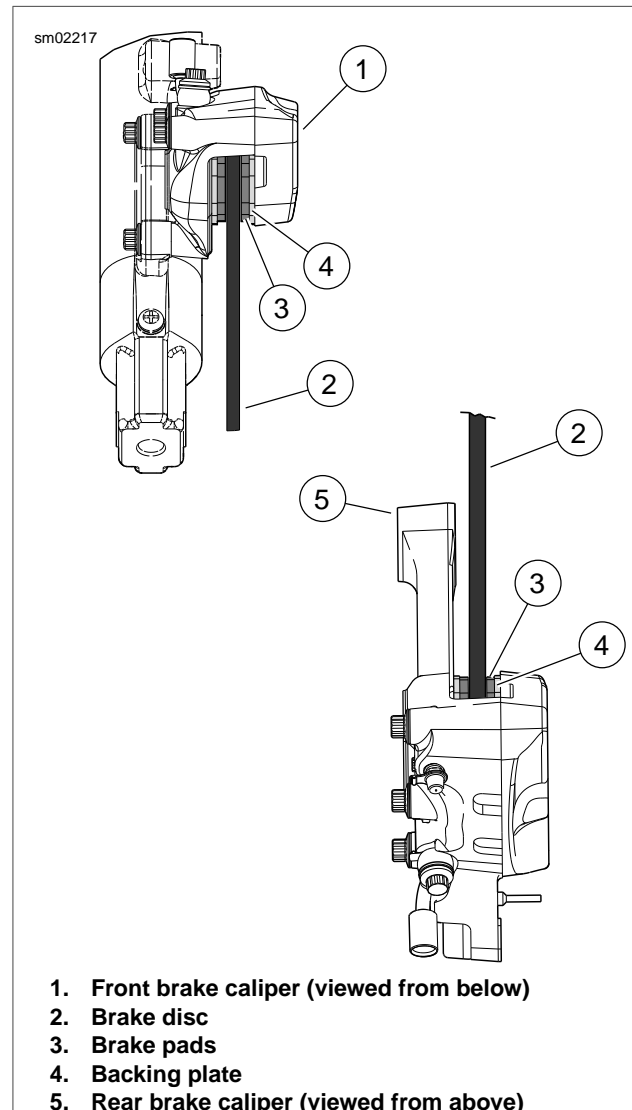

Figure 1-33. Brake Pad Inspection
See Figure 1-33. Replace brake pads (3) if brake pad friction material on either the front or rear caliper is worn to 0.04 in. (1.02 mm) or less above the backing plate (4). Always replace both pads in a caliper as a set. See 1.16 BRAKE PADS AND DISCS, Brake Pad Replacement.